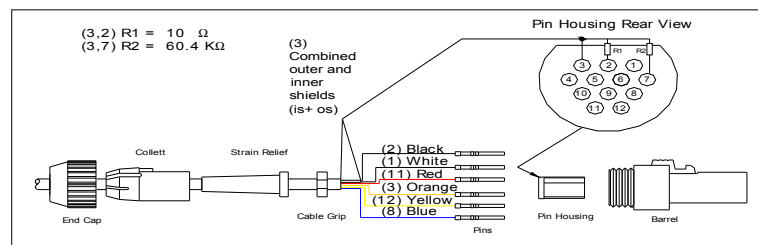

Fig 2.2
15. Push/pull all pins firmly into the correct locations shown in fig 2.2.
16. Solder remaining leg of (R2) to the long leg of (R1) as shown in fig 2.2. and trim off excess wire. (form wire to shape, solder then trim to be as compact as possible).